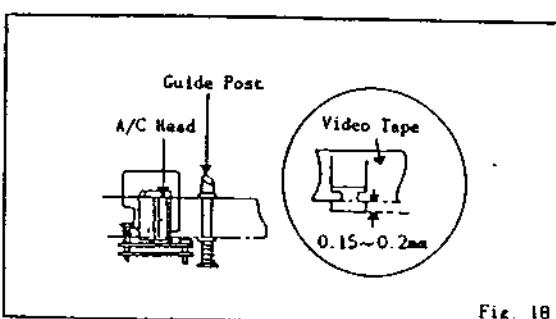

Fig. 18
3. Confirm that the height and tilt of A/C Head against the tape are as per Fig. 18.
4. If tape still does not run smoothly adjust it by turning screw ③ slowly.
- Height of A/C Head against the tape should be as per Fig. 18.